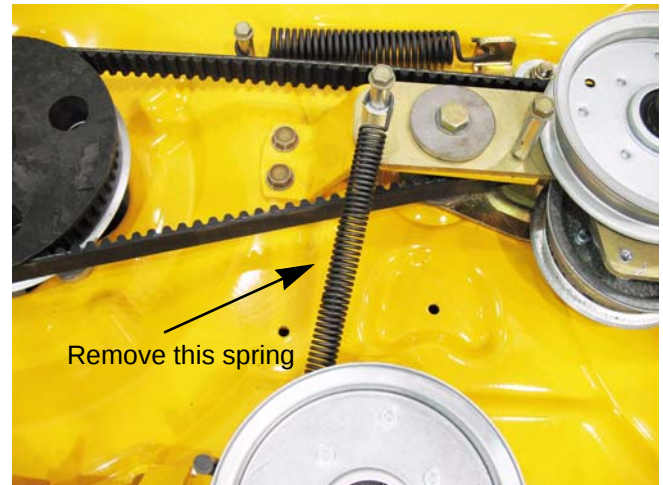

Figure 8.21
- Remove the PTO belt idler spring. See Figure 8.21.